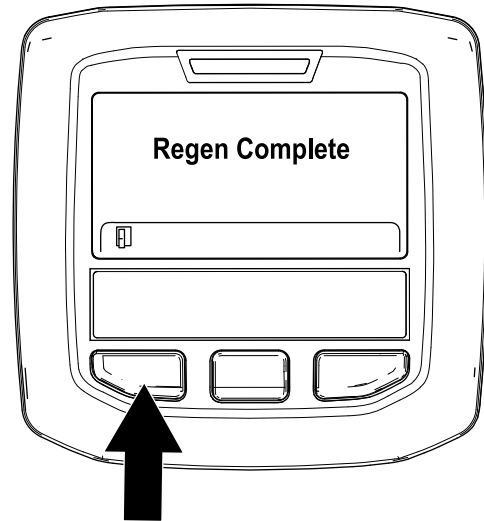

Figure 57
9. The parked regeneration is complete when the "Regen Complete" message displays in the InfoCenter. Press the left button to exit to the home screen (Figure 57).